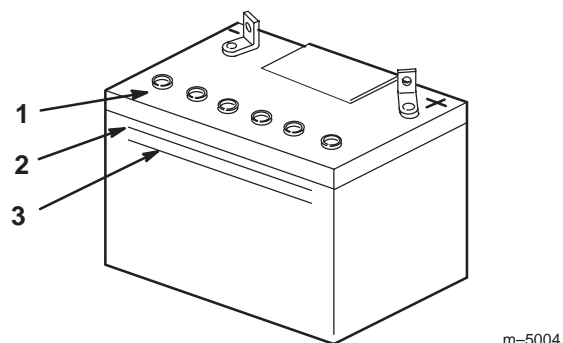

Figure 61
2. Look at the side of the battery. The electrolyte must be up to the **upper** line (Fig. 61). Do not allow the electrolyte to get below the **lower** line (Fig. 61).
3. Remove the vent caps from the battery (Fig. 61).
4. Slowly pour distilled water into each battery cell until the level is up to the **upper** line (Fig. 61) on the battery case.
5. Wait five to ten minutes after filling the battery cells. Add distilled water, if necessary, until the electrolyte level is up to the **upper** line (Fig. 61) on the battery case.